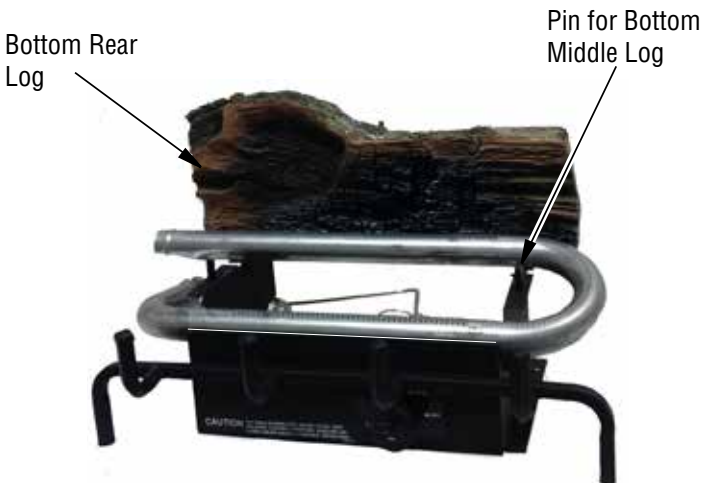

Figure 31A - Placing 18" Bottom Rear Log
2. Place bottom middle log onto base. Holes in bottom of log must seat over pins on base see **Figures 31A and 32**.